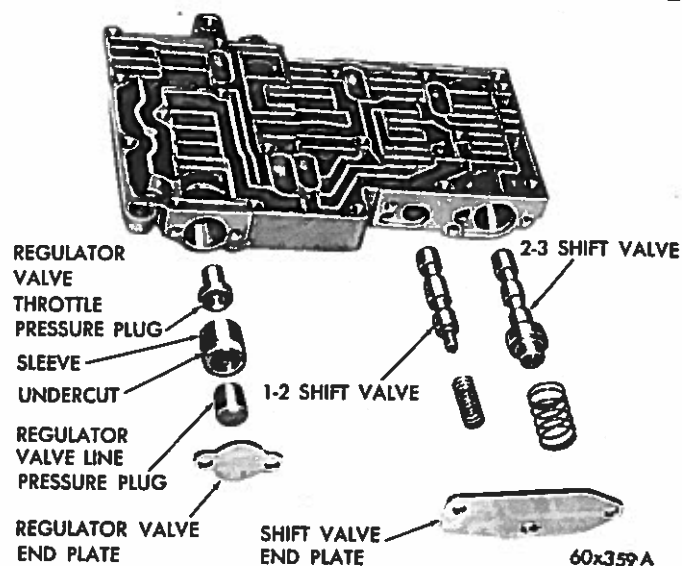

Fig. 55—Valve Body-Shift Valve Side (Exploded View)
(16) Remove shift valve end plate (Fig. 55) and slide out the two springs and valves.
(17) Remove the regulator valve end plate. Slide
(5) Install the 1-2 and 2-3 shift valves and springs (Fig. 55). Install shift valve end plate and tighten the three retaining screws to 28 inch-pounds torque.
(6) Install regulator valve throttle pressure plug, sleeve (under cut on sleeve toward end plate), and line pressure plug (Fig. 55). Install regulator valve end plate and tighten the two retaining screws to 28 inch-pounds torque.